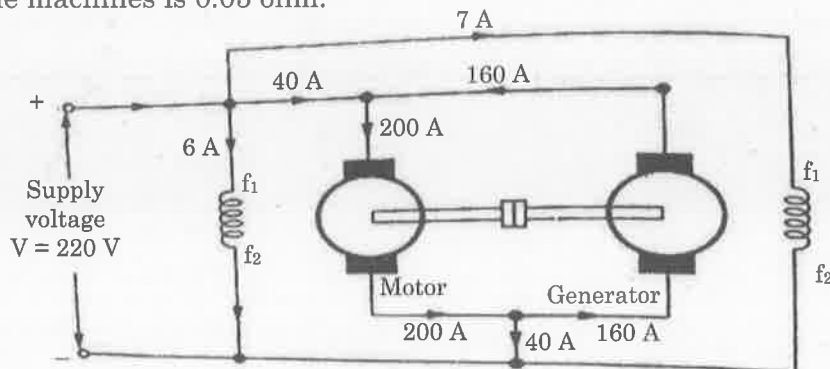

Fig. 16(a)
16. (a) The Hopkinson's test is carried out on DC shunt machines. The circuit and data is shown in Fig:16(a). Calculate the efficiency of the machines at the given load conditions. Assume the armature resistance of each of the machines is 0.05 ohm.